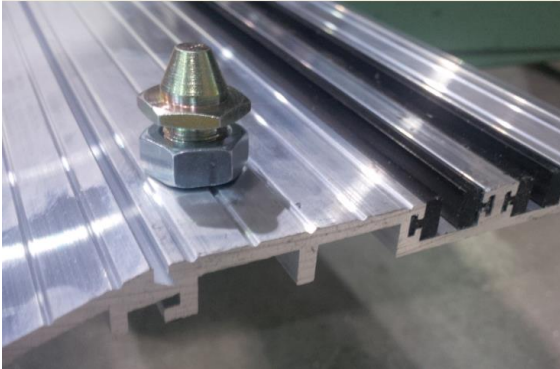
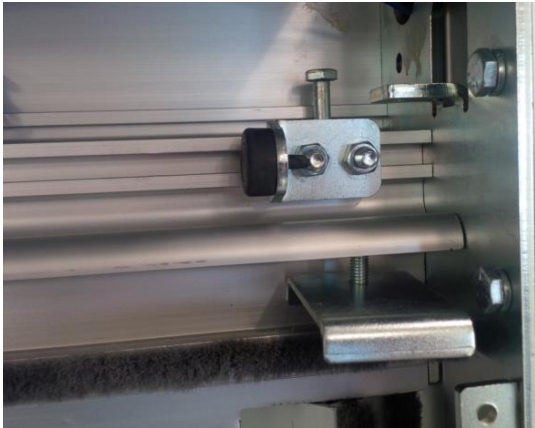

Figure 1
Figure 2
2. The side panel bottom pivot is installed in the threshold and can be adjusted for height (*Figure 1*). If the threshold filler is not installed, it can be tapped-in with a wood block and rubber mallet.
1. Remove panels from carton. Lift panel and place bottom pivot bushing (factory installed in bottom panel stile) onto the track pivot (*Figure 1*). Raise the top pivot pin in the header and place the panel into position. Push the pivot pin in the header down to engage the panel pivot bushing in the top of the panel style (*Figure 2*).